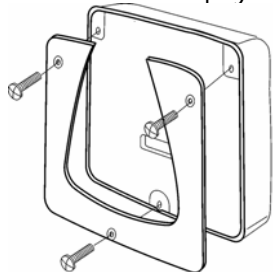

Fig. 1
1. Using the three supplied M4 bolts attach the back plate to the rear of the NMEA Interface. (Fig. 1)